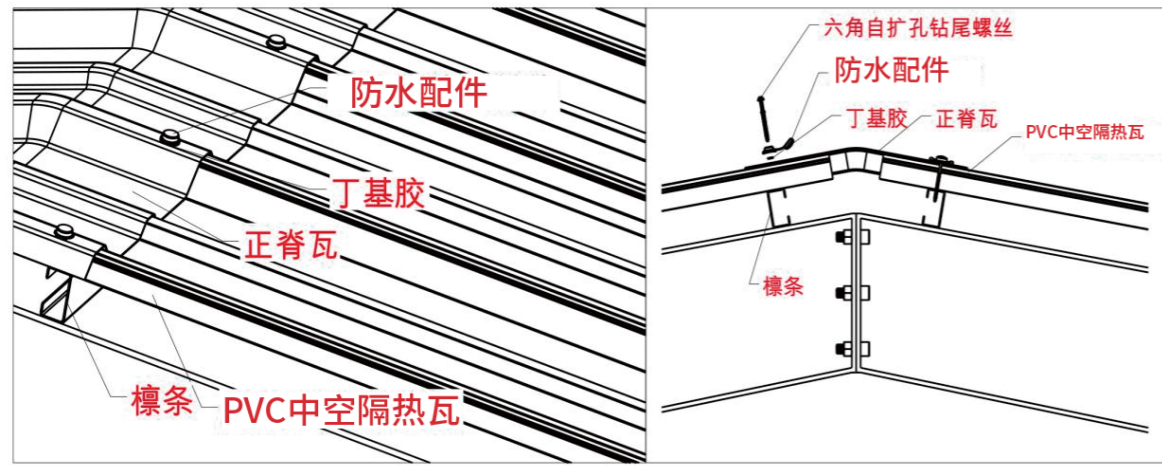

Figure 7)
- 1 Ridge tiles are installed on the roof ridge. Installation should begin from one side of the main tile area, with an overlap of one wavy line between two ridge tiles (see Figure 7).